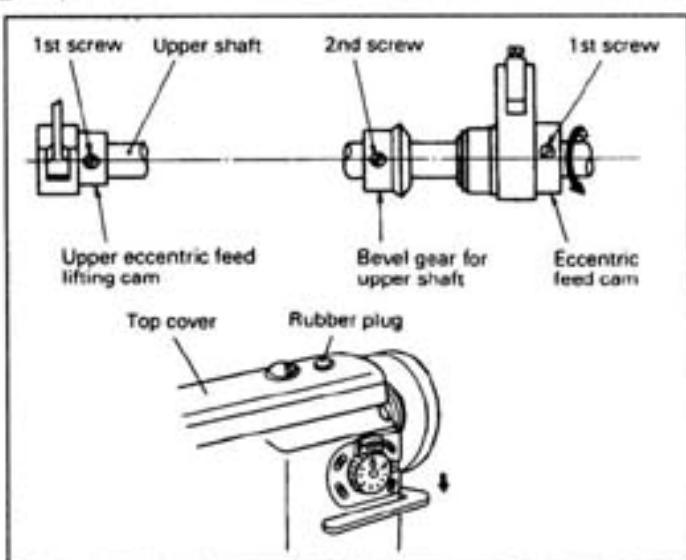

Fig.33
30. Adjustment of feed timing (Fig.33):
- 1) The standard position of the eccentric feed cam and eccentric feed lifting cam are illustrated to Fig.33